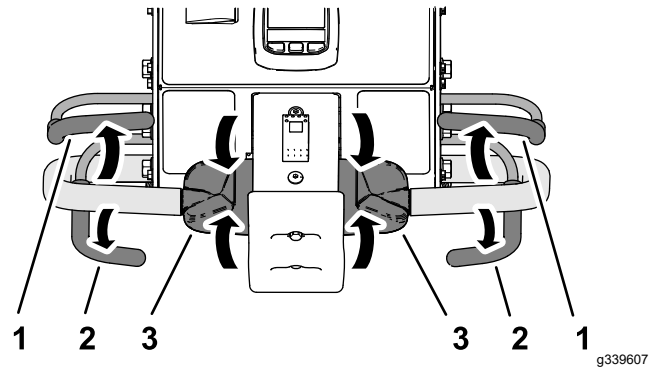

Figure 86
1. If you are aerating, release the aerate bail (Figure 86) to raise the coring head; refer to Raising the Coring Head (page 46).